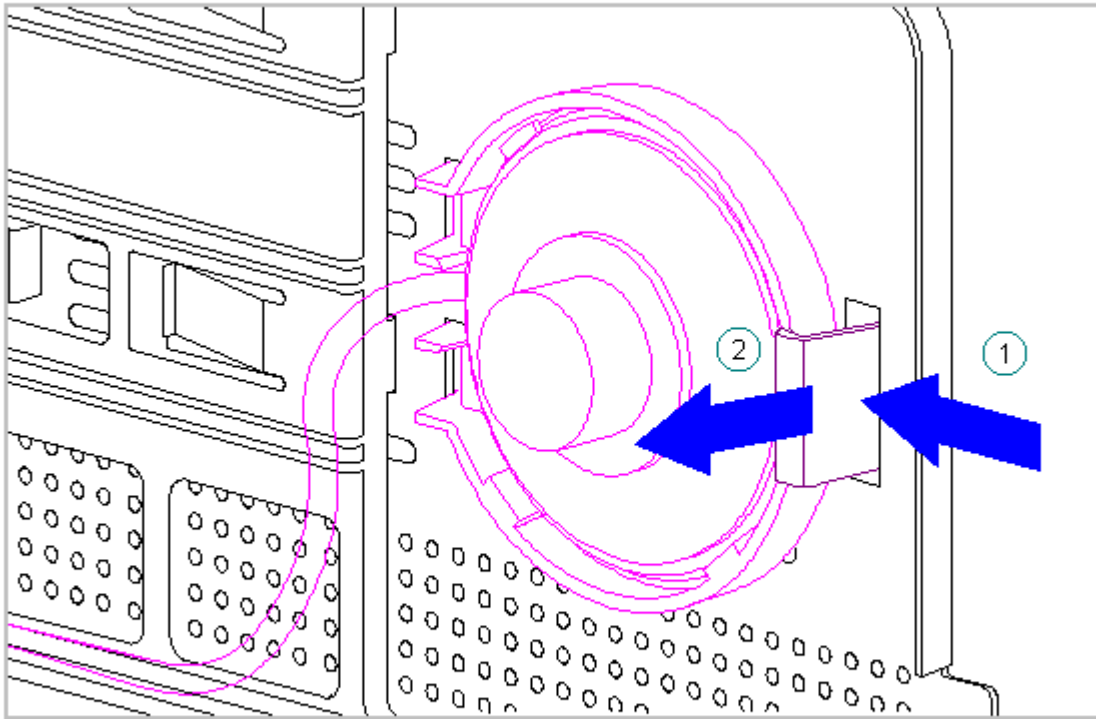

Figure 5-37. Removing the Speaker Assembly
4. Release the speaker bracket from the front panel by pushing on the tab and rotating the bracket away from the chassis panel (Figure 5-37).
6. Install the replacement speaker into the bracket using a snap action, making certain that the wires exit the speaker bracket as shown in Figure 5-37.